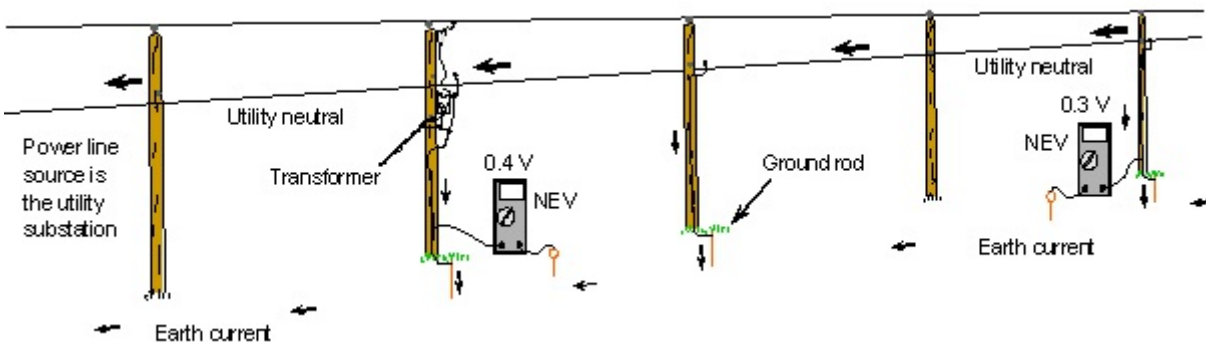

Figure 337.5 Most utility electrical distribution lines are multi-grounded to the earth and some of the neutral current flows in the earth.
1. Voltage drop on a utility multi-grounded distribution line neutral. (See *Figure 337.5*)
essential for maximum safety and reliability. But because of all these neutral wire grounds the *earth becomes a parallel conductor for current returning to the substation*. As a result the earth also becomes a return path back to the substation for some of the neutral current. It is common for a very small voltage to be present between the neutral wire and the earth at each grounding location. *This is what is known as neutral-to-earth voltage*. This phenomenon is explained by Ohm's law which explains that when this very small current flows across the ground rod resistance to earth a very small voltage occurs. This ground rod current is usually only a fraction of an ampere. Assume the ground rod current is 10mA (0.01 ampere) and the ground rod resistance to earth is 30 ohms. The neutral-to-earth voltage at that ground rod location is the product of the current in amperes and the resistance of the ground rod. For this example the NEV is 0.3 volts. Such small voltages have no effect on humans or animals. On occasion a condition can arise that results in an elevated level of NEV. *Figure 337.5* illustrates a typical grounded neutral utility distribution line with a small current flowing in the earth back to the substation.